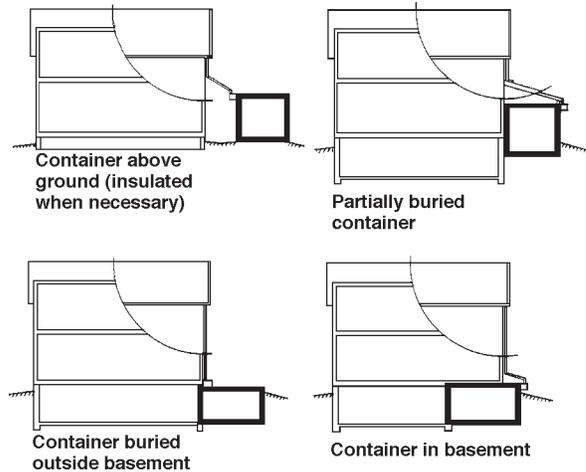

Figure 22 Examples of placement of systems.
- 215 Poured concrete cisterns are generally used for buildings which have year-round occupancy. The shape is totally arbitrary and, with careful design, the cistern will blend into the overall landscaping. The year-round cistern must be protected against freezing to avoid leaks and to assure a continual water supply throughout the winter. If the concrete cistern is buried, groundwater must not penetrate the cistern. On frost susceptible soils, cracks in the cistern may occur, increasing the danger of groundwater infiltration. See recommendations for placing of poured cisterns (Figure 22).
Placement of cisterns depends on local site conditions. The tank should be protected against heat, mechanical loads, and so on. When installations will be used year-round, winter freeze protection for both the foundation and the water supply system must be considered. Figure 22 shows some placement possibilities.